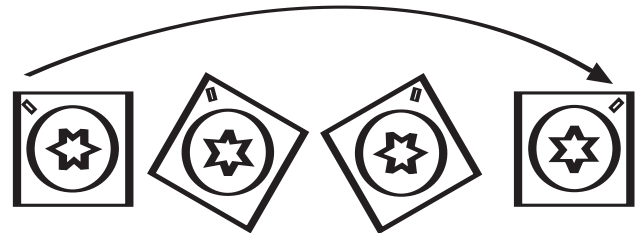

FIGURE 20
5. If cutter insert is damaged, replace it a new one. If it is not damaged, rotate it as shown in Fig.20. Using a torque wrench, tighten to approximately 45-55 in/lbs torque.